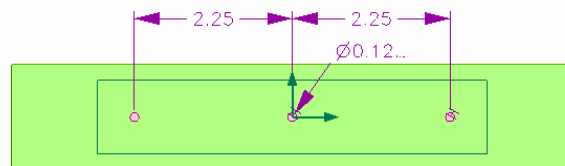

Figure 28. Hole layout for clamp block.
60. Layout three $1/8''$ ($0.125''$) holes as shown in figure 28.